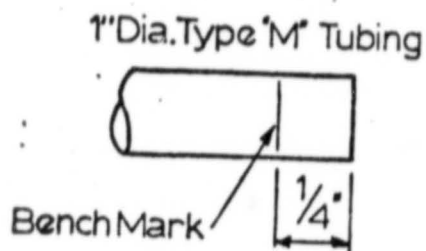

Figure 3
- c) Clean 4 - 2" pieces of 1" type M Copper Tubing with emery cloth. Place a mark with tube cutter 1/4" in from the end of the tube. See Fig. 3.